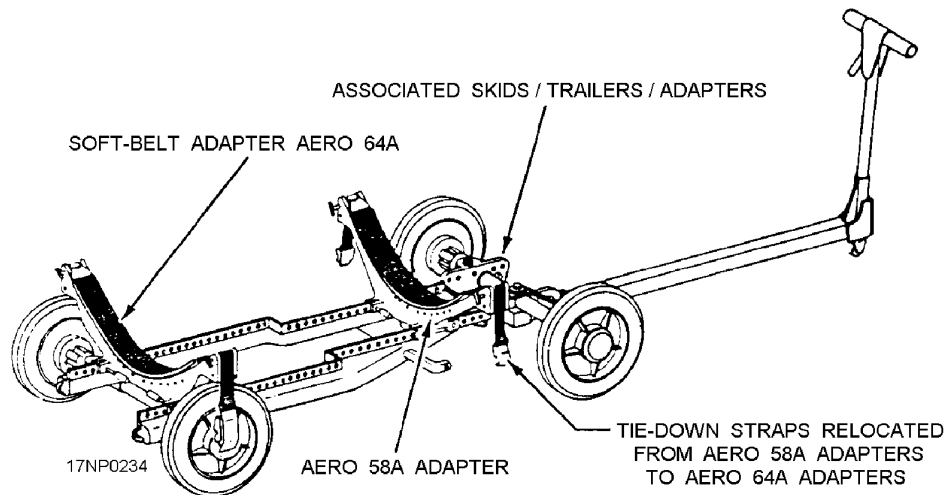

Figure 9-36.—Aero 64A soft-belt adapter mounted to Aero 58A skid adapters/MHU-191/M munitions transporter.
**AERO 64A SOFT-BELT ADAPTER.**—The Aero 64A soft-belt adapter (fig. 9-36) consists of a